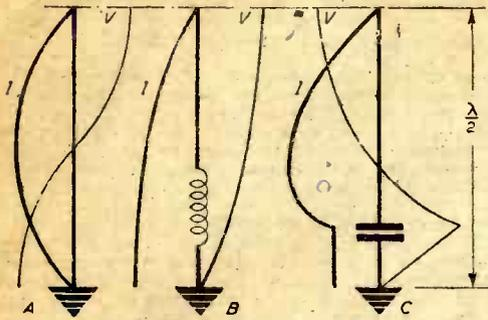

Fig. 74.—The Marconi $\lambda/2$ aerial. (A) Voltage and current distribution. (B) Effect of loading coil. (C) Effect of loading condenser.
For the smaller wavelengths (higher frequencies) the aerial length required does not prohibit the use of a vertical aerial. Fig. 74 (A) shows a Marconi $\lambda/2$ aerial with its voltage and current distribution. Fig. 74 (B) shows how the $\lambda/3$ aerial can be effectively lengthened by the use of a loading coil for longer wavelengths, whilst Fig. 74 (C) shows the effect of placing a condenser in series with the aerial.